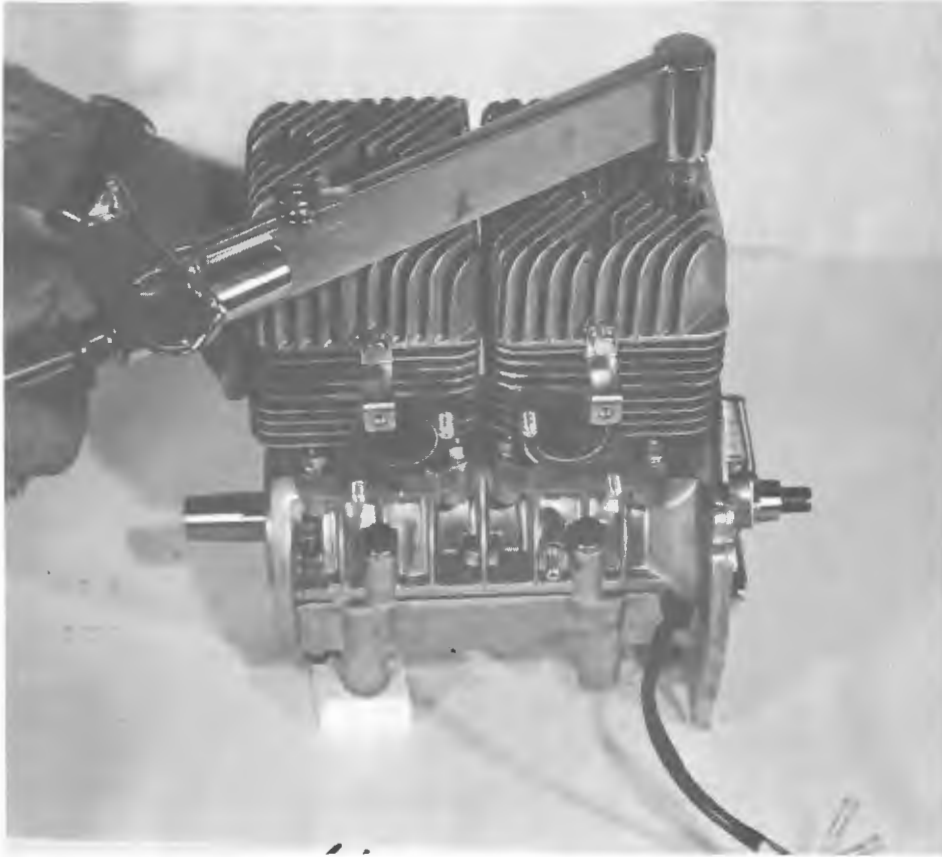

FIGURE 5-6 CYLINDER HEAD INSTALLATION
5.2.4 CYLINDER HEADS (See Figure 5-6)